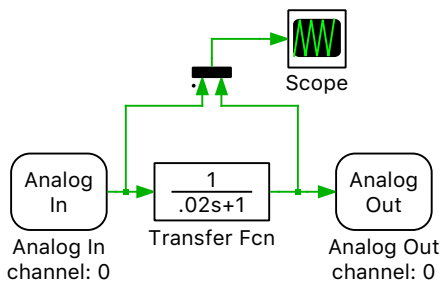

Figure 8: A simple first order system
- 1 Create a new model and then drag and drop a Subsystem component onto your canvas from the library browser window. Double-click on the Subsystem to view its contents and remove the existing Signal Inport and Signal Outport components. Add an Analog In and an Analog Out block into the subsystem. Use analog input 0 and analog output 0 of the RT Box. Add a Transfer Function component implementing a first order system with the form $G(s) = \frac{1}{0.02s+1}$ as shown in Figure 8. Connect the transfer function input and output signals to a Scope.